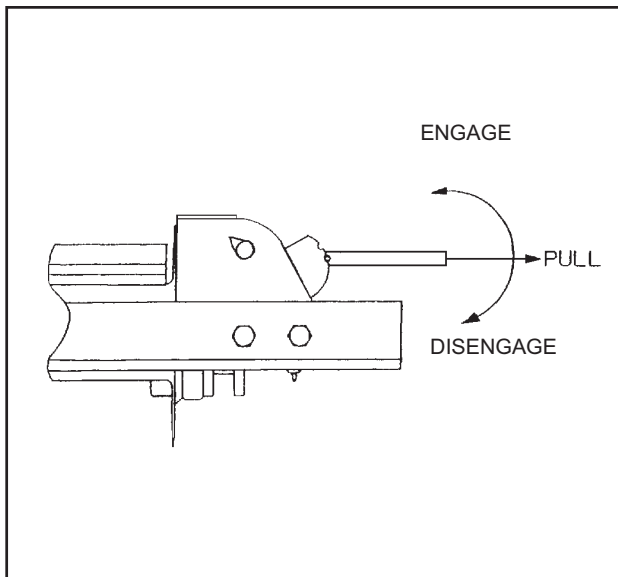

Figure 3-8 12,000# Winch Clutch
3-16.2 The **WINCH CLUTCH HANDLE** (See **Figure 3-8 and 3-9**) is located on the right or curb-side end of the winch assembly. The function of the **WINCH CLUTCH HANDLE** is to engage or disengage the winch, allowing it to respond to the **WINCH HYDRAULIC LEVER**. For trailers equipped with optional **PNEUMATIC WINCH CONTROL** (20,000 lb. and 30,000 lb. winches only), the control is a switch on the control panel (See **Figure 3-4**). If the semitrailer also has the optional winch air tensioner, it also is controlled by the same switch on the control panel. For the 20,000 lb. and 30,000 lb. winch, this switch controls both the clutch and the winch air tensioner simultaneously. For the 12,000 lb. winch, this switch controls only the air tensioner.
- a. The **12,000 lb. WINCH CLUTCH HANDLE** has two positions: (See **Figure 3-8**)